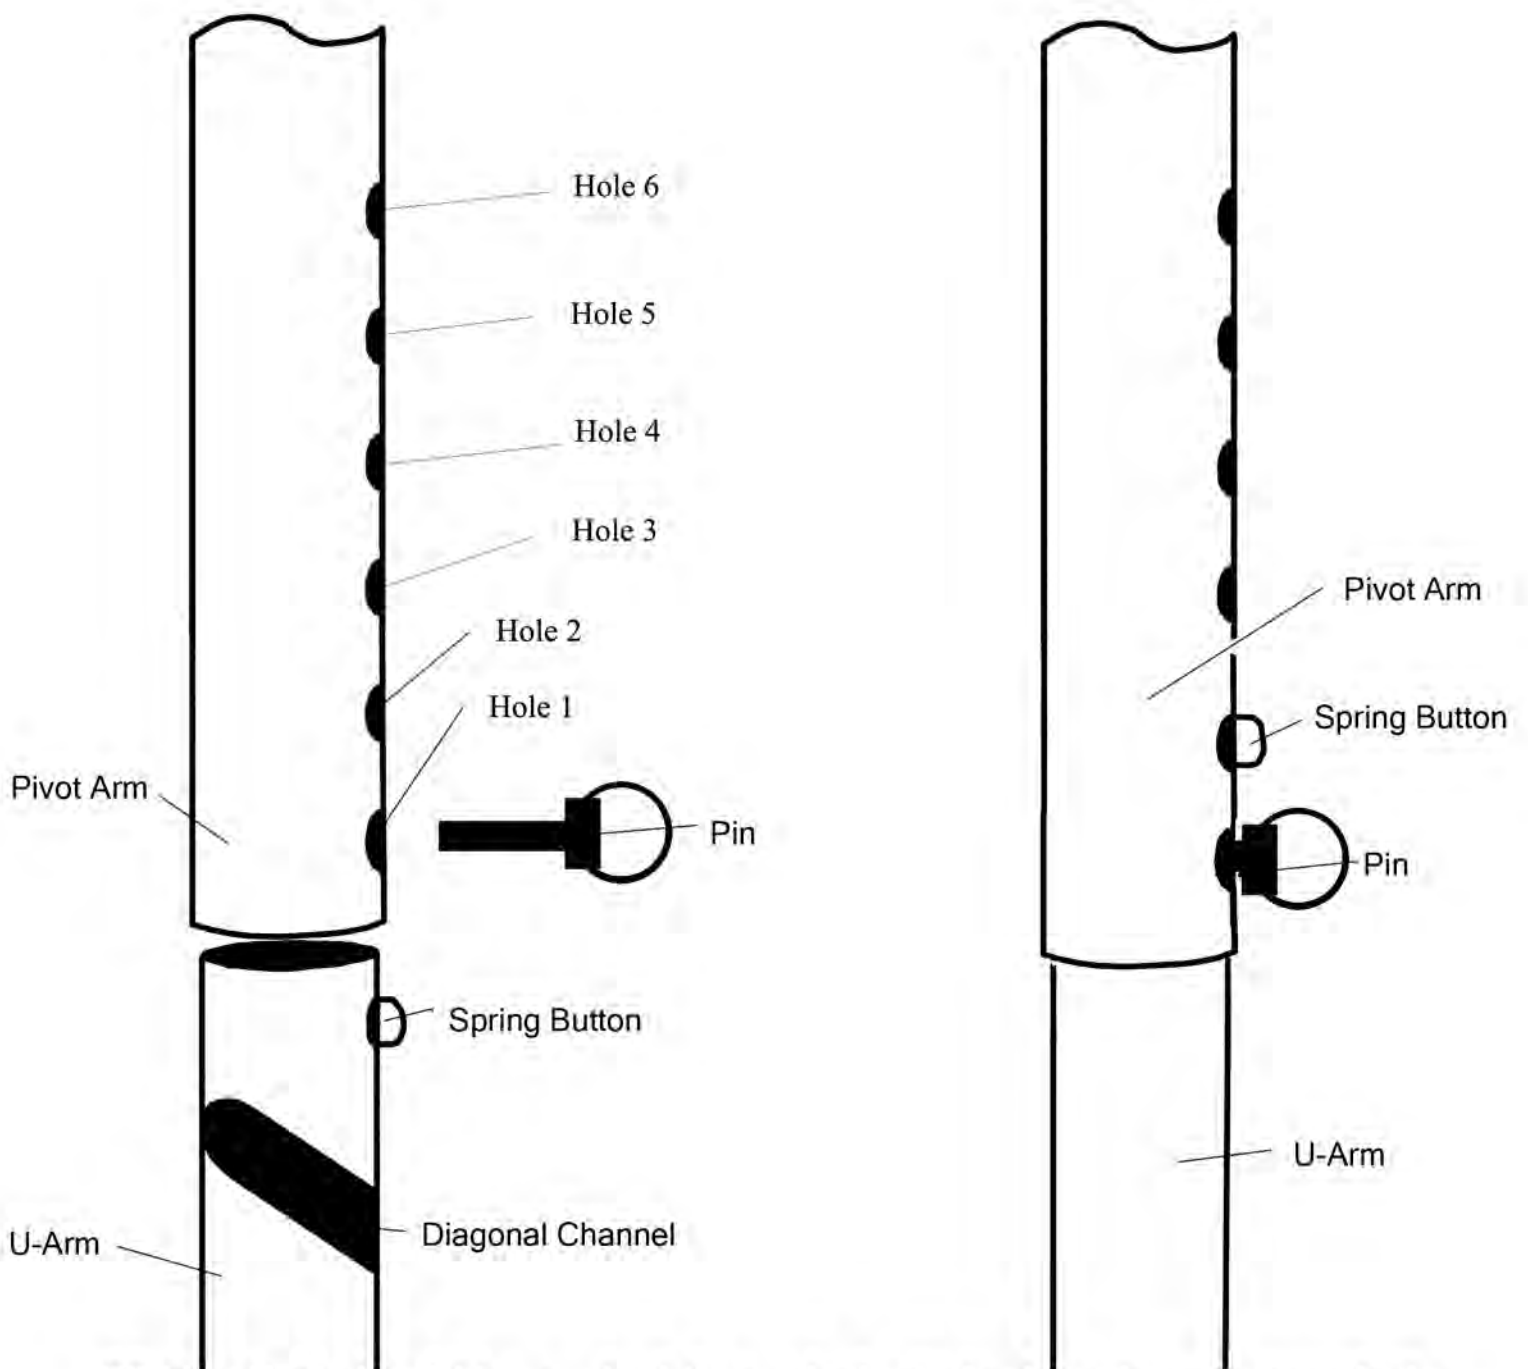

**Figure 5**
**Step 5.** Attach the enclosed BALL STUDS and LOCK NUTS to the TAB and the FIN located on the MAIN UNIT. Attach the SHOCK by pushing the female ends of each side over the BALL STUDS until they click into place. SEE FIGURE 5.